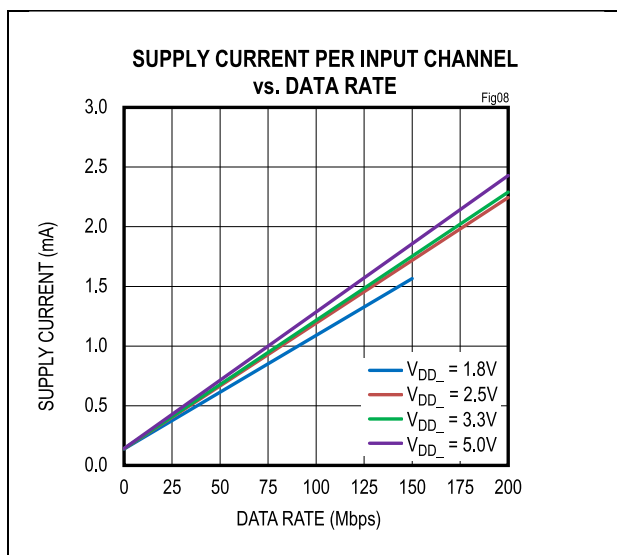
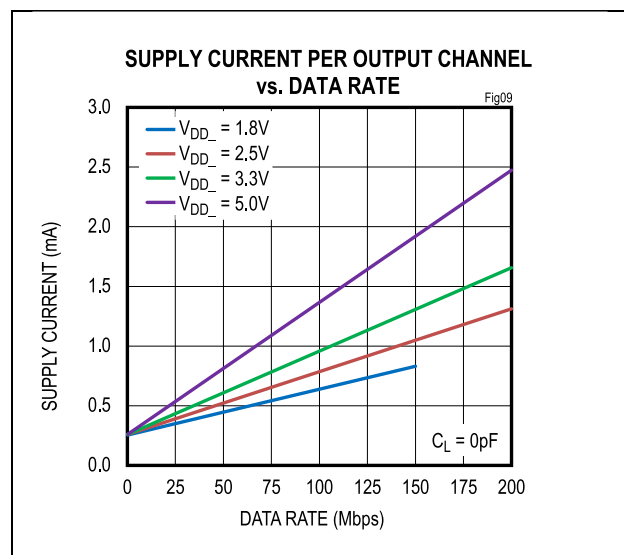

Figure 8. Supply Current Per Input Channel (Calculated)
Figure 9. Supply Current Per Output Channel (Calculated)
The required current for a given supply (V_{DDA} or V_{ddb}) can be estimated by summing the current required for each channel. The supply current for a channel depends on whether the channel is an input or an output, the channel's data rate, and the capacitive or resistive load if it is an output. The typical current for input or output at any data rate can be estimated from the graphs in Figure 8 and Figure 9. Note that the data in Figure 8 and Figure 9 are extrapolated from the supply current measurements in a typical operating condition.
The total current for a single channel is the sum of the no-load current (shown in Figure 8 and Figure 9) which is a function of voltage and data rate, and the load current, which depends on the type of load. Current into a capacitive load is a function of the load capacitance, the switching frequency, and the supply voltage.
- Channel 1 is an input channel operating at 2.5V and 20Mbps, consuming 0.35mA, estimated from Figure 8.
- Channel 2 is an input channel operating at 2.5V and 100Mbps, consuming 1.19mA, estimated from Figure 8.
- Channels 3 and 4 are input channels operating at 2.5V with DC signal, consuming 0.14mA, estimated from Figure 8.
- Channel 5 is an output channel operating at 2.5V and 50Mbps, consuming 0.52mA, estimated from Figure 9.
- Channel 6 is an output channel operating at 2.5V and 200Mbps, consuming 1.31mA, estimated from Figure 9.
- Channel 1 is an output channel operating at 3.3V and 20Mbps, consuming 0.40mA, estimated from Figure 9.
- Channel 2 is an output channel operating at 3.3V and 100Mbps, consuming 0.96mA, estimated from Figure 9.
- Channels 3 and 4 are output channels operating at 3.3V with DC signal, consuming 0.26mA, estimated from Figure 9.
- Channel 5 is an input channel operating at 3.3V and 50Mbps, consuming 0.68mA, estimated from Figure 8.
- Channel 6 is an input channel operating at 3.3V and 200Mbps, consuming 2.29mA, estimated from Figure 8.